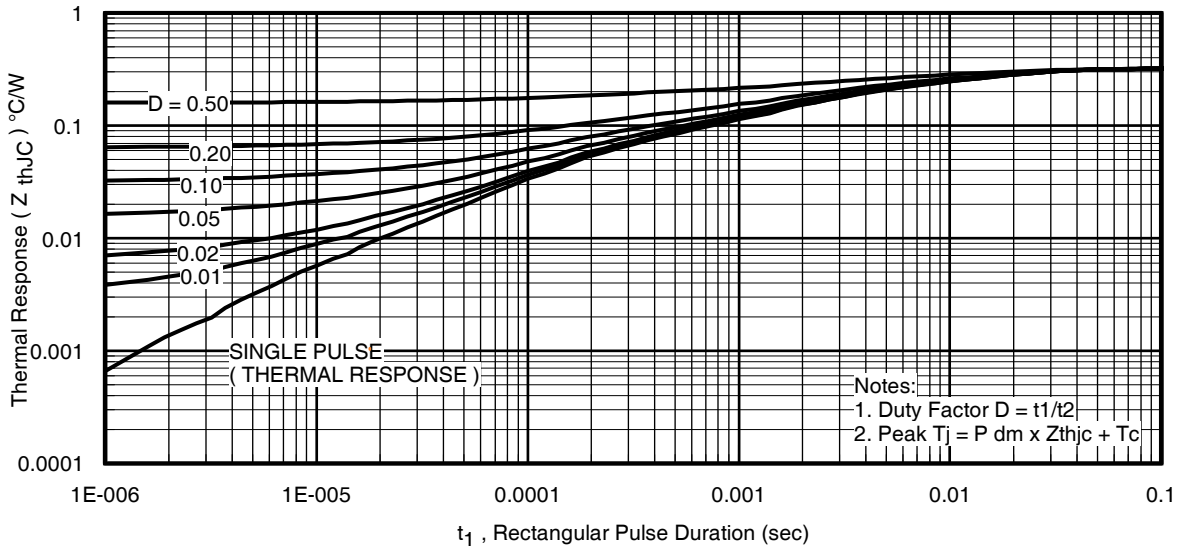

Fig 11. Maximum Effective Transient Thermal Impedance, Junction-to-Case
- ① Repetitive rating; pulse width limited by max. junction temperature. (See fig. 11).
- ② Starting T_J = 25°C, L = 0.25mH
$Z_{thJC}(D, t_{av})$ = Transient thermal resistance, see figure 11)